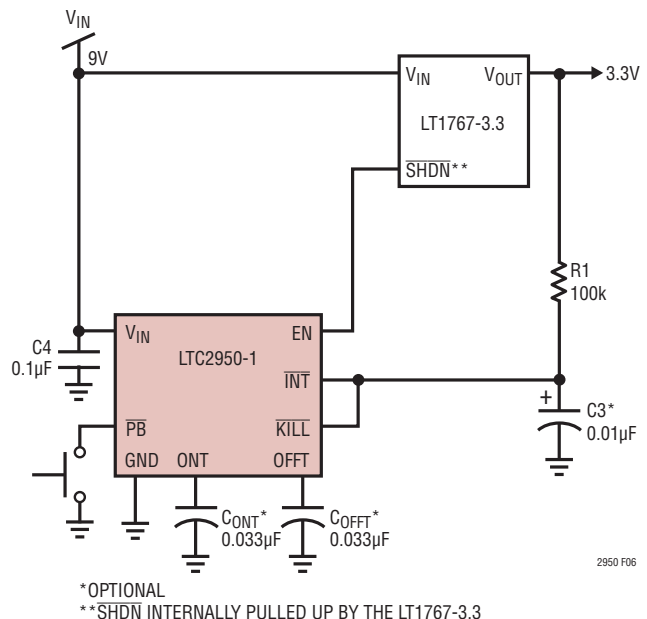

Figure 6. No  $\mu P$  Application
**$\overline{\text{KILL}}$  (Pin 8/Pin 5):**  $\overline{\text{KILL}}$  Input. Forcing  $\overline{\text{KILL}}$  low releases the enable output. During system turn on, this pin is blanked by a 512ms internal timer to allow the system to pull  $\overline{\text{KILL}}$  high. This pin has an accurate 0.6V threshold and can be used as a voltage monitor input. If unused, connect to a low voltage output supply (see Figure 6).
Figure 6 shows how to connect the  $\overline{KILL}$  pin when there is no circuitry available to drive it. The minimum pulse width detected is 30 $\mu s$ . If there are glitches on the resistor pull-up voltage that are wider than 30 $\mu s$  and transition